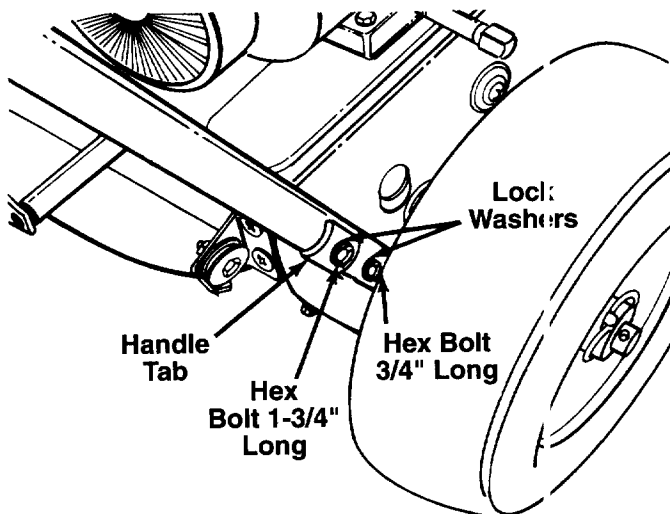

FIGURE 1.
1. Place right handle in position against the snow thrower so the flat side of the handle is against the snow thrower. Secure bottom hole in handle to snow thrower using hex bolt 3/4" long and lock washer. See figure 1. Do not tighten at this time.